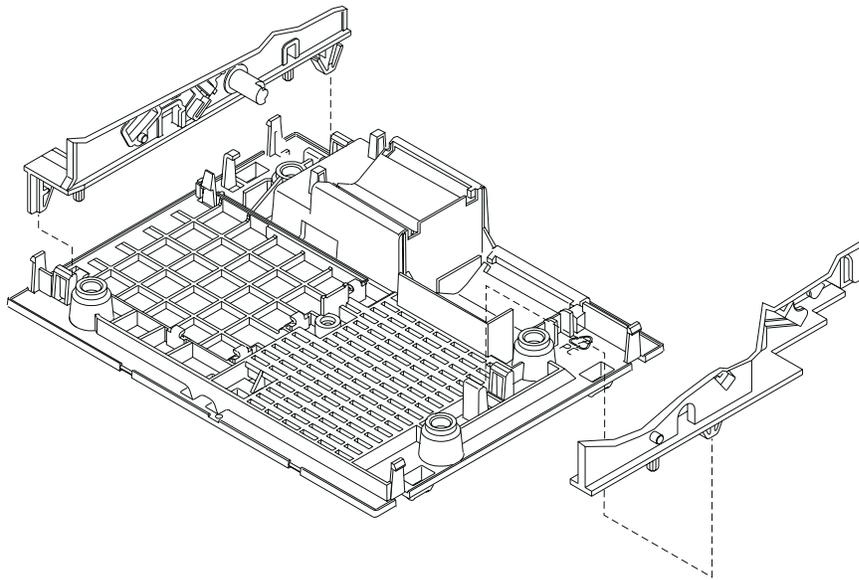

Figure 6-51. Base. The base has been disassembled beyond what is necessary for this procedure in order to illustrate how it attaches to the printer frame.
- 2 Align the holding tabs on the printer assembly over the corresponding receptacles in the base as shown in Figure 6-51 on page 6-79.